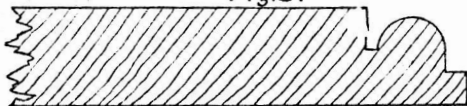
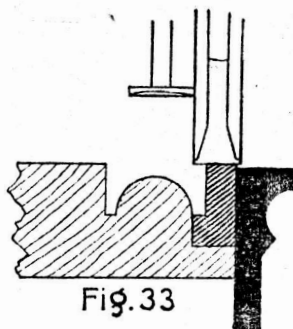

Fig. 32
Fig. 33
*Fig. 32* shows a section of the "Torus" bead. This is easily worked by first forming the center bead at the required distance from the edge of the board, and working the square or quirk with one of the narrow plow cutters. This cutter should always be the full width of the square, so that no further work is needed to level it down. A section of the Plane as set to work the square is shown in *Fig. 33*.